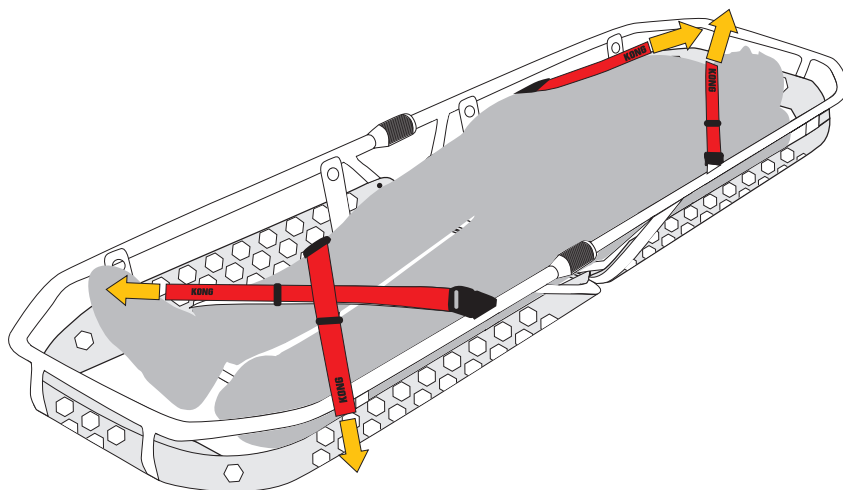

Fig.10
- a) unhook the buckles and open the securing straps (fig. 10),